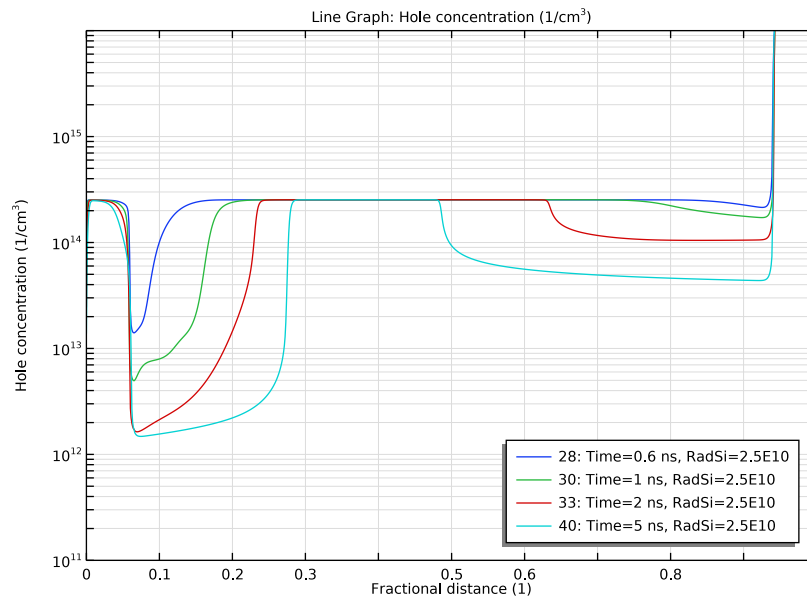

Fig. 7B Electron Distribution at Several Times
- 3 In the **Settings** window for **ID Plot Group**, type Fig. 7B Electron Distribution at Several Times in the **Label** text field.
4 In the **Fig. 7B Electron Distribution at Several Times** toolbar, click  **Plot**.
- 1 In the **Model Builder** window, right-click **Fig. 7B Electron Distribution at Several Times** and choose **Duplicate**.